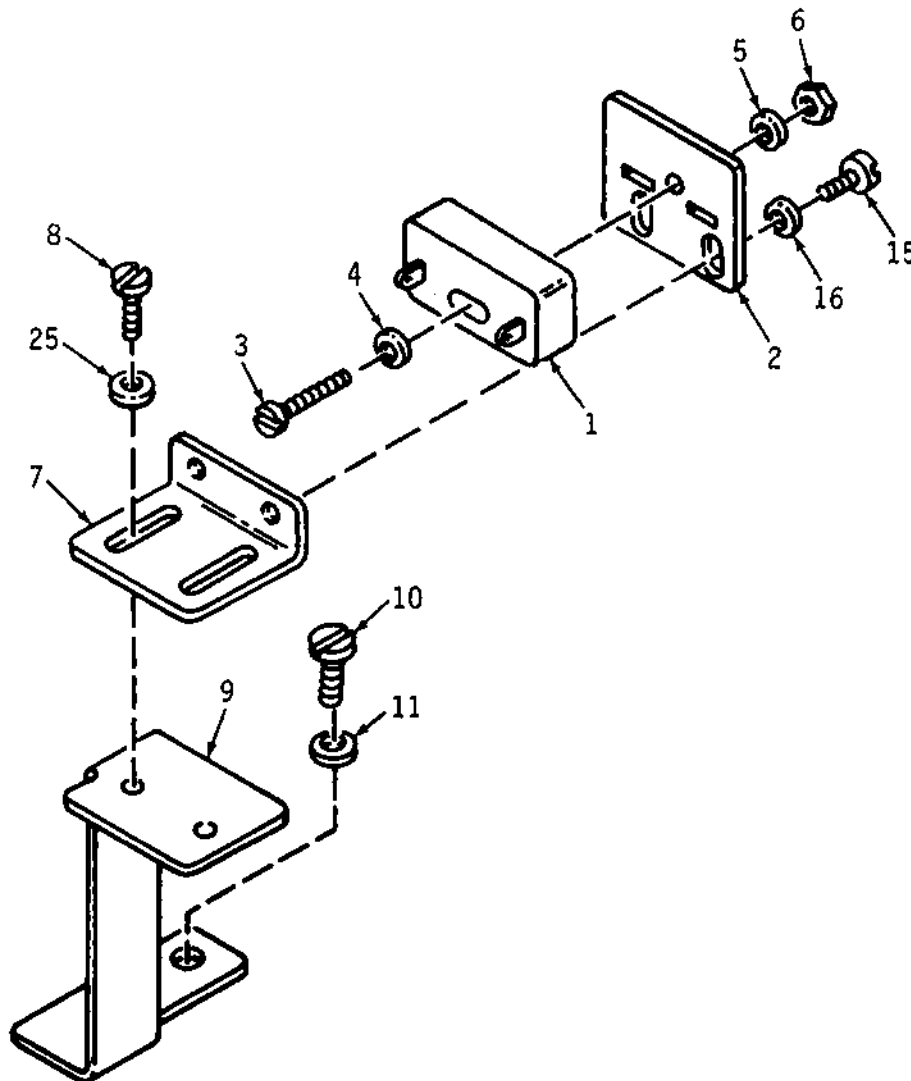

Figure 5-9. REED SWITCH ASSEMBLY, LEFT (AG)
A. REED SWITCH (LEFT AND RIGHT) (SEE FIG. 5-9)